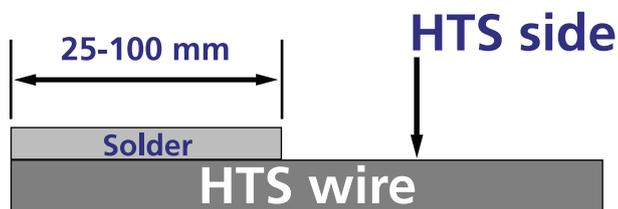

Figure 3. Tinned wire for overlap joint
- With the soldering iron set to the appropriate temperature, “tin” the fluxed portion of the wire with a thin coating of solder over the desired length as shown below in Figure 3.